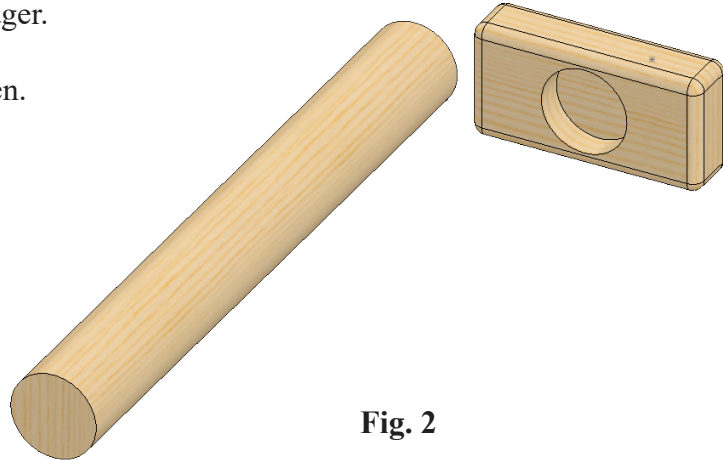

Fig. 2
Step 4. Place Rod as positioned in **Fig. 2**.